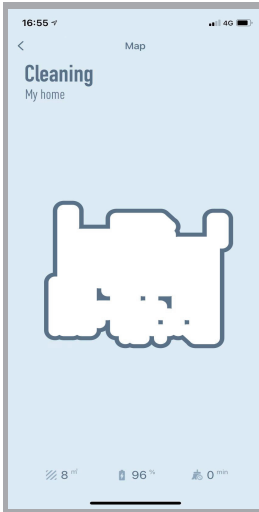

Fig. 12
D). Click the icon  to check the cleaning map as Fig.12.